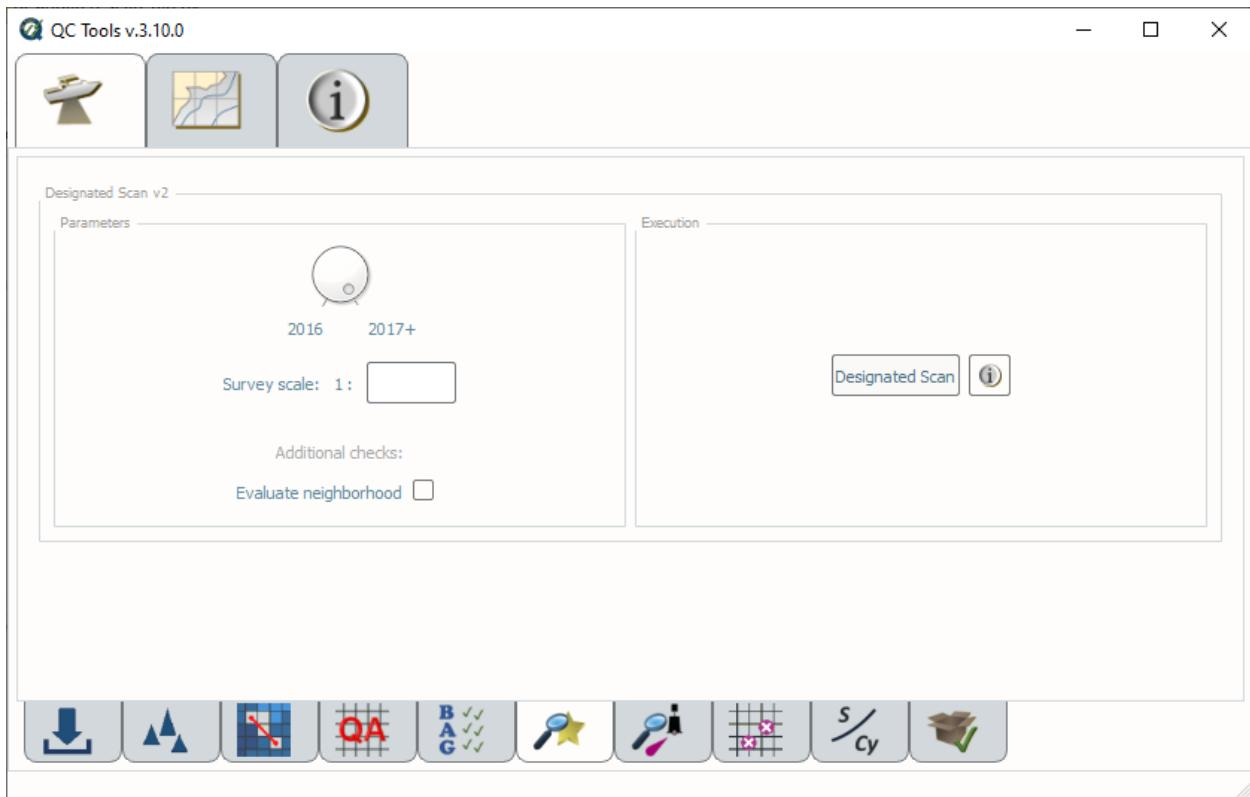

Fig. 2.44: The **Designated Scan** tab.
- Select the **Designated Scan** tab (Fig. 2.44) on the bottom of the QC Tools interface.